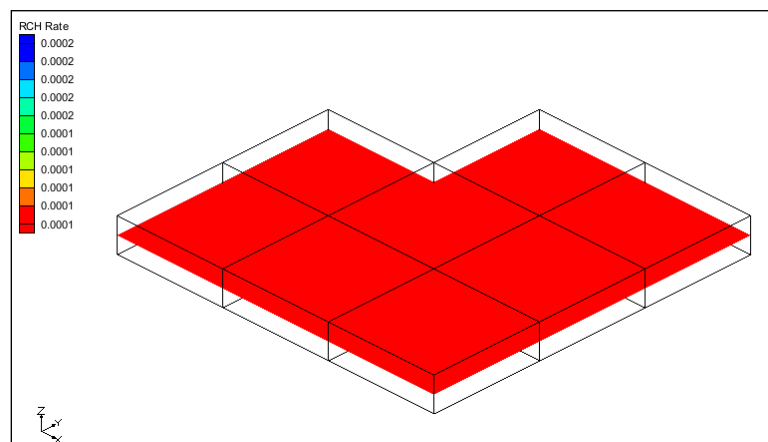

Figure 5 The inactive cell is no longer visible
The cell is no longer visible because the IBOUND value is inactive (0) as shown in Figure 5.